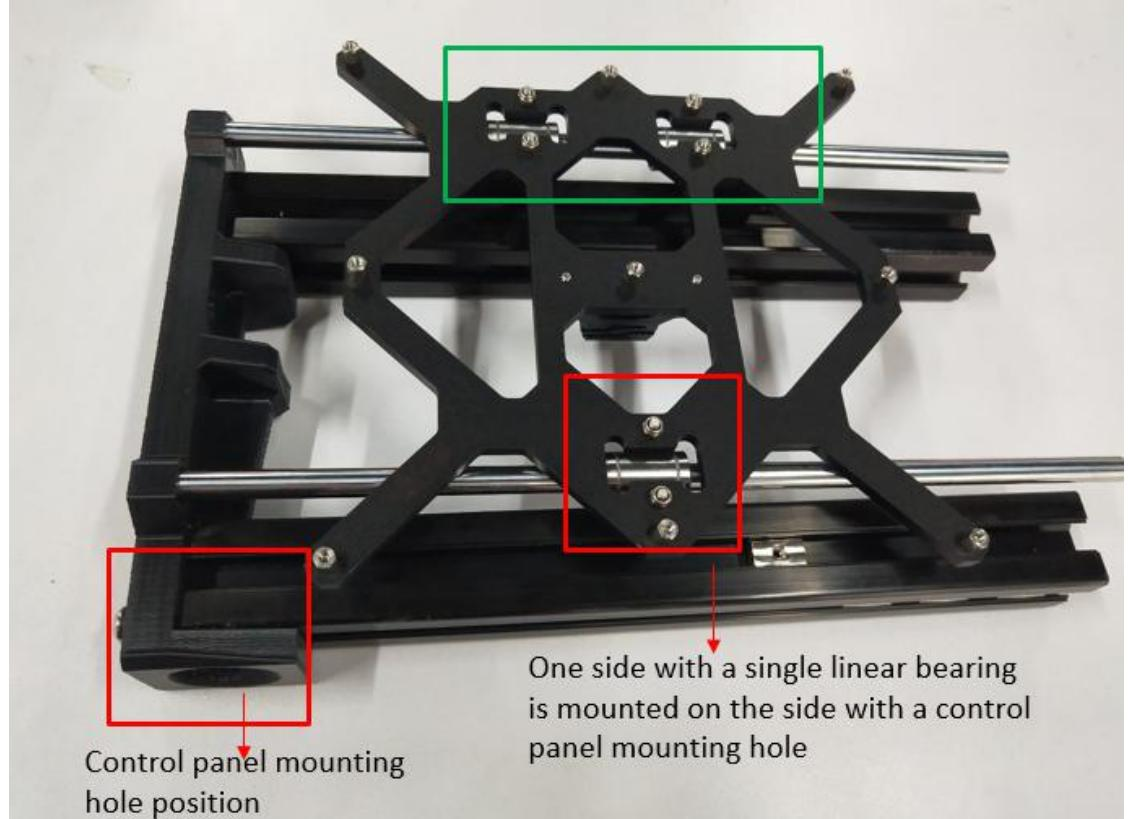

Figure 1.9.3
**Step 1-9-3:** As shown in Figure 1.9.3, after installing the support plate into the smooth rod, check whether the direction is reversed. The installation direction of the side with a single linear bearing is required to face the side with the control panel installation hole ; Check if the support plate slides abnormally.